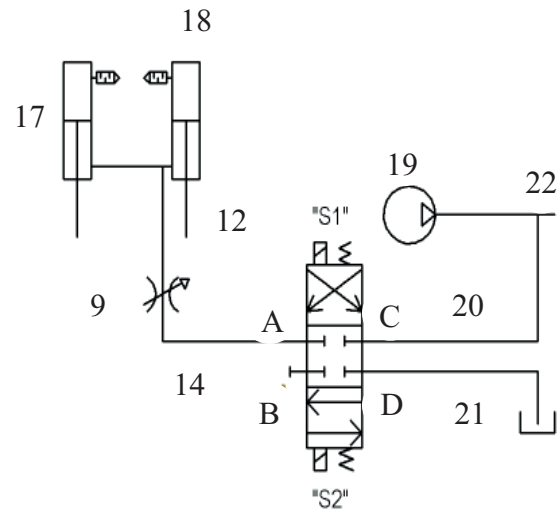

Figure 3.5 - Hydraulic Schematic
3. *Figure 3.5* illustrates the ideal setup for the hydraulic routing. The hydraulic cylinders (#17) are fed by a pressure line with a needle valve (#9) from the main switch block (#12) connected to port A. The one side of the block is tee'd into a fixed displacement pump (#19) circuit (#22) connecting to the block at port C. Port D on the block is tee'd into the tank line (#21). Port B is plugged (#14).